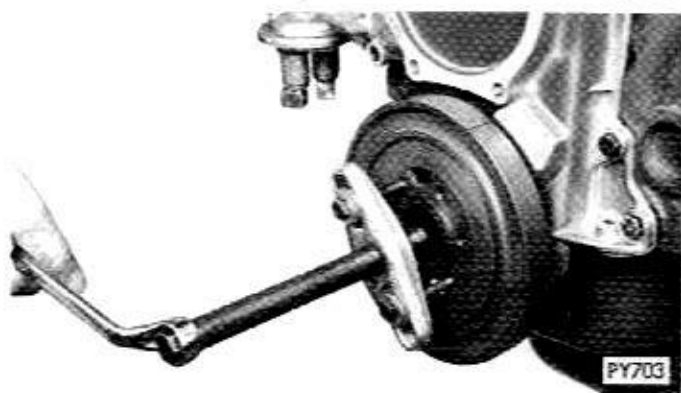

Fig. 18—Removing Vibration Damper Assembly
(1) Drain cooling system and remove radiator, fan belt and water pump assembly.
(2) Remove pulley from vibration damper and bolt and washer securing vibration damper on crankshaft.
(3) Install Tool C-3688 and pull vibration damper from end of crankshaft (Fig. 18).
(4) Remove fuel lines and fuel pump.
(5) Loosen oil pan bolts and remove the front bolt at each side.
(6) Remove chain case cover and gasket using extreme caution to avoid damaging oil pan gasket.